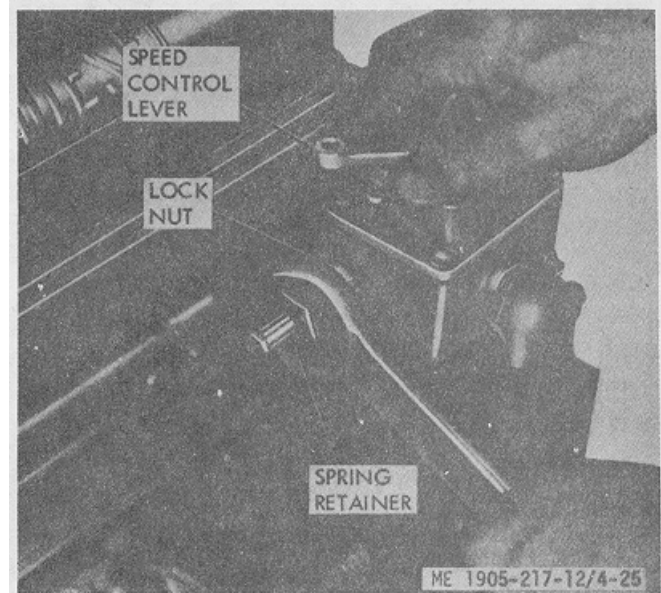

Figure 4-25. Adjusting maximum no-load speed.
(1) Loosen the locknut (fig. 4-25) and back off the high speed spring retainer approximately five turns.
(2) With the engine at operating temperature and no-load on the engine, place the speed control lever in the full-fuel position. Turn the high speed spring retainer IN until the engine is operating at the recommended no-load speed.
(3) Hold the high speed spring retainer and tighten the locknut.